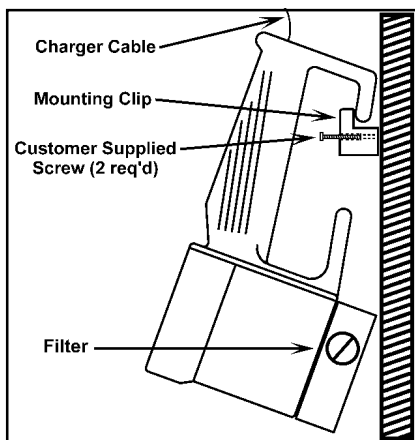

Figure 4: Wall mounting
A stationary mounting clip is provided for conveniently hanging the detector while not in use. See Figure 4.
• Check filter material every six months. Replace if dirty or moist. See Figure 4.